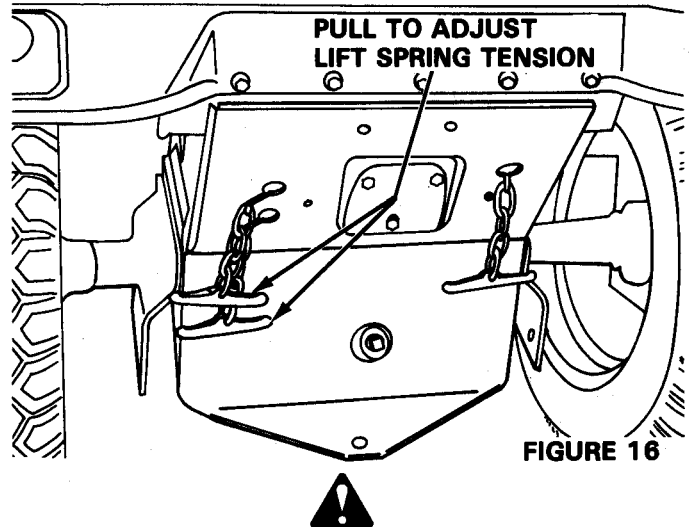

FIGURE 16
6. Release spring tension from front rockshaft lift springs on manual lift tractors as shown in Figure 16. Grasp the chain handle firmly, pull rearward to release chain links from tractor frame, and carefully allow chain to move forward in the slots.
8. Reapply spring tension to the front rockshaft lift springs as shown in Figure 16. Pull as tight as possible (last link of chain will provide maximum tension and easiest lift).